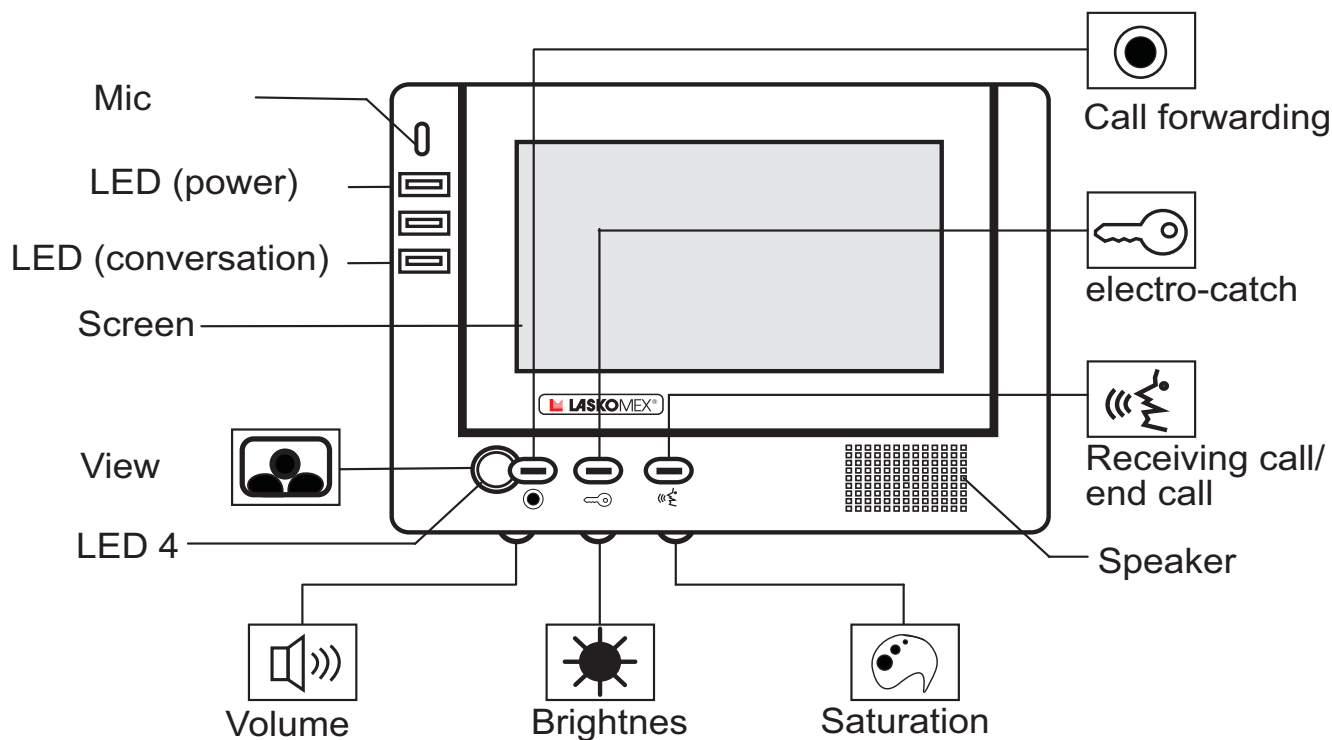

Fig 1. MVC-6601 video monitor
- To switch on voice communication, press the button  (talk, see Fig. 1). In two-monitor installations, if voice communication has been established by one of the monitors, the other one will switch off after approx. 1 minute.
- The MVC-6601 monitor features controls for volume, brightness and colour saturation adjustment (see Fig. 1).